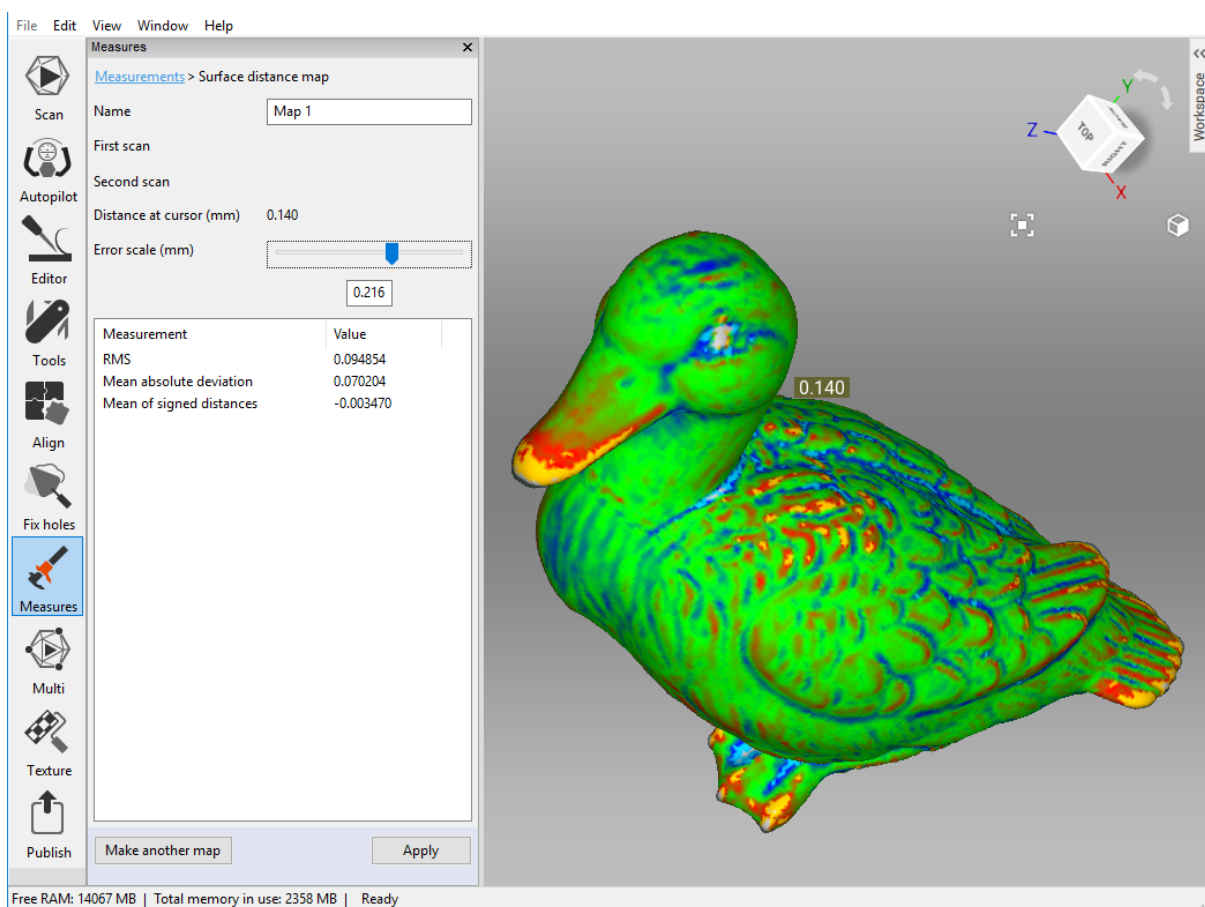

Figure 118: Surface-distance map calculated for two models.
5. Click *Calculate*. Once the process is complete, the distance map will appear in the *3D View* window and the calculation results in the *Measures* panel (see Figure 118).